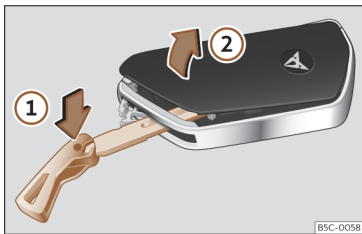

Fig. 66 Vehicle key: open the battery compartment cover.
- Insert the key blade into the slot >>> **Fig. 66**, press it in the direction of arrow ① and detach the cover by levering it ②.